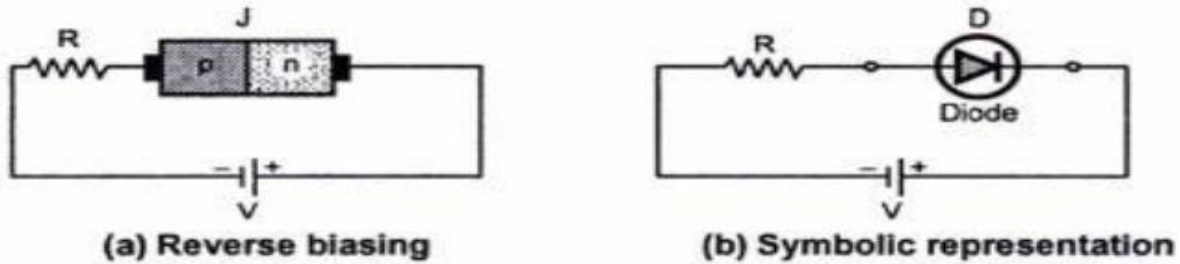

Fig. 1.7 Reverse biasing of PN Junction Diode
- The Fig. 1.7 (a) & 1.7 (b) shows the connection of a reverse biasing and symbolic representation of a p-n junction.